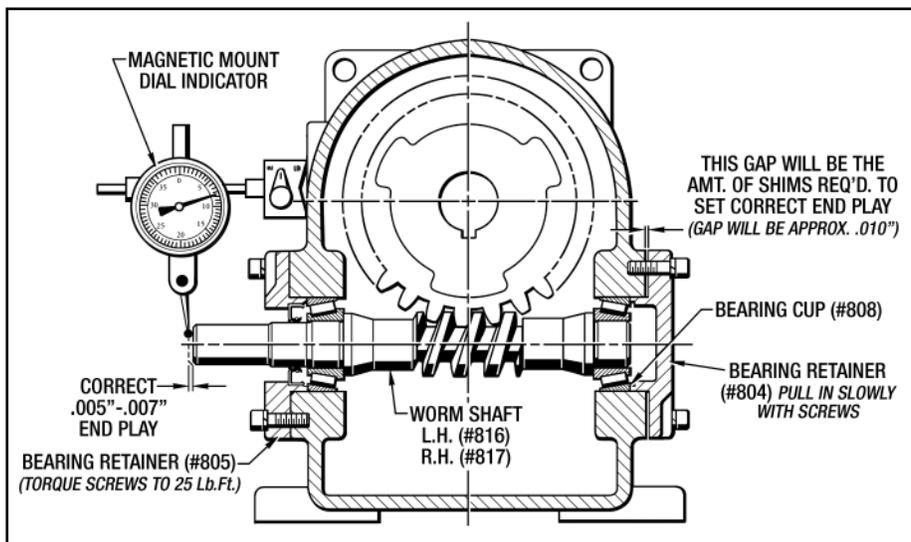

Figure 9.11 - Setting End Play for the Worm Shaft
- Attach a magnetic mounted Dial Indicator to the end of the Worm shaft (#816 or #817) as shown in Figure 9.11 on the next page.
- Measure the gap between the Bearing Retainer (#804) and the Main Housing (#800) with a feeler gauge as shown in Figure 9.11. (**This Gap will be the amount of Shims Required.**)